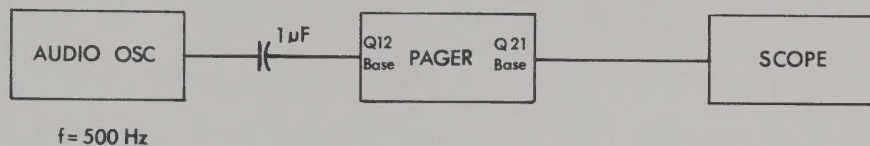
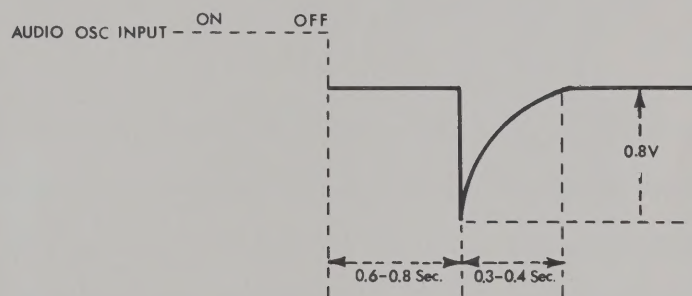

FIGURE 2
FIGURE 3
- (a) Connect the set and test equipment as shown in Figure 2. After setting the audio input voltage to 8 millivolts, quickly cut off the input. An output voltage drop accompanied by a time delay of approximately 0.7 second shown in Figure 3 should be displayed on the CRT oscilloscope.